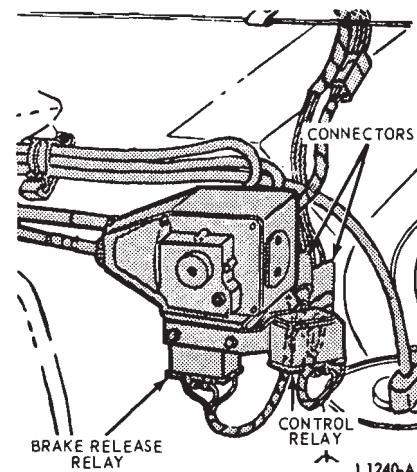

FIG. 4—Brake Release and Control Relays, Installation—Continental Mark III
1. Disconnect the brake release relay at the quick disconnect. (The relay is mounted on the speed control regulator bracket in the engine compartment Fig. 4).
2. Remove the nuts and lockwasher securing the relay to the regulator assembly mounting bracket (Fig. 4).